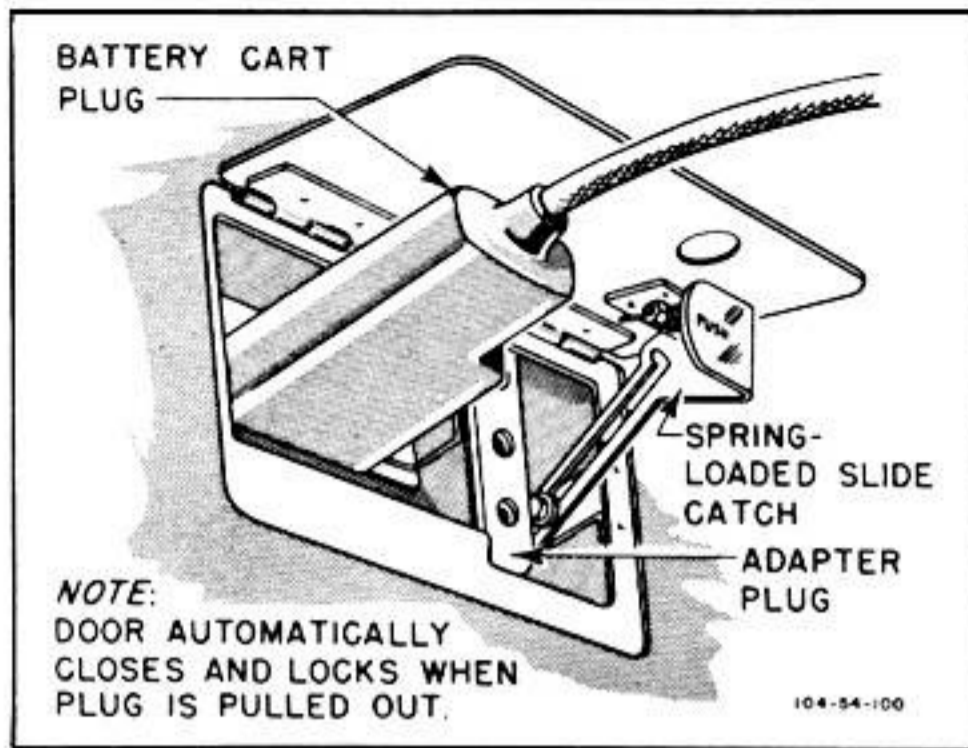

Figure 345—External Power Socket
(3) ALTERNATING CURRENT INVERTER.—A 400-cycle, 26-volt alternating current, required for the remote-reading compass, is supplied by a battery-driven rotary inverter mounted on the right side of the cockpit floor, just aft of the firewall. On early airplanes, the inverter is on forward left side of instrument subpanel. On later airplanes, the inverter is mounted on the right side of the generator control box. There is no control switch, as the inverter is connected directly to the electrical system and operates whenever the battery-disconnect switch is closed, or whenever the electrical system is hot.
(4) EXTERNAL POWER SOCKET.—An external power socket (figure 345) on the right side of the fuselage just above the trailing edge of the wing permits the attachment of an external source of power for starting, ground checks, and for charging the battery. (See paragraph 20. c. (1) (d) of this section.) The access door is spring-loaded to permit removal of the plug without entering the propeller blast. An adapter plug is furnished to facilitate the connection of the British type external power supply.